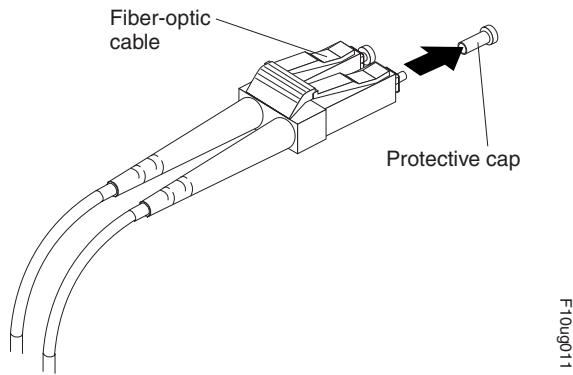

Figure 24. Removing caps from fiber-optic cables
1. Remove the protective cap from the fiber-optic cable. See Figure 24 on page 56.